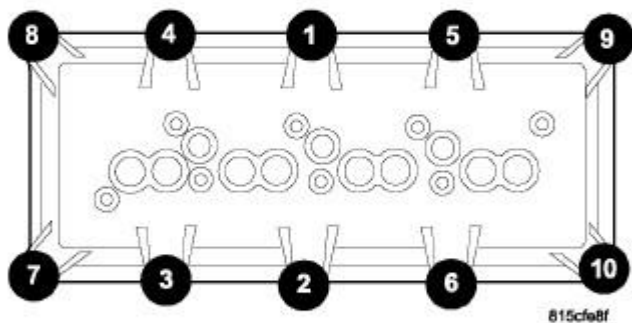

Fig. 119: 5.7/6.1L COVER TORQUE SEQUENCE
11. Using the sequence shown in **Fig. 119**, tighten the cylinder head cover retaining bolts to 8 N.m (71 in. lbs.).